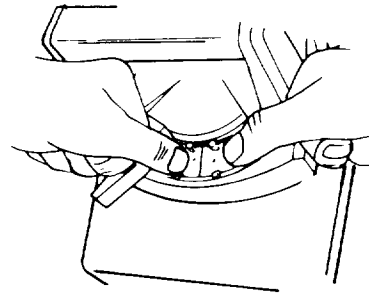

Fig. 69
19. Install bevel scale indicator by inserting one end into the opening in the yoke. Slide the indicator to one side and push until it snaps in place. Tabs are located on the outside of the opening. Adjust indicator by sliding red line to 0° position. (Figure 69)